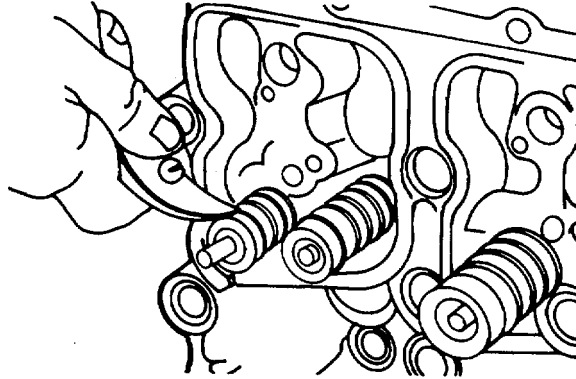

FIGURE 4-26. Compressing Valve Spring.
- c. Compress the valve spring using valve spring compressor (3, FIGURE 4-8) after assembling the spring (3) and retainer (2) as shown in FIGURE 4-26).